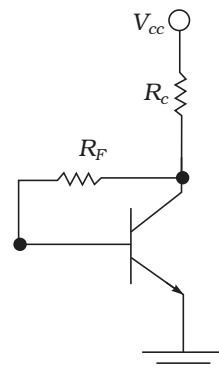

Fig. 2
2. In the circuit shown in Fig. 2, $V_{CC} = 10\text{ V}$, $R_C = 2.5\text{ k}\Omega$, $R_F = 200\text{ k}\Omega$, $\beta = 99$, $V_{BE} = 0.6\text{ V}$. Determine the operating point (V_C , I_C).